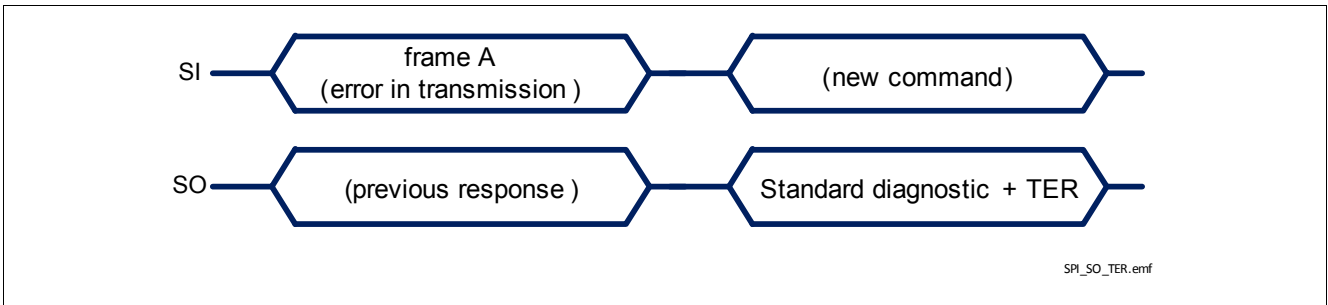

Figure 38 TLE75602-ESH response after a error in transmission
- in case an error in transmission happened during the previous frame (for instance, the clock pulses were not multiple of 8 with a minimum of 16 bits), shown in **Figure 38**